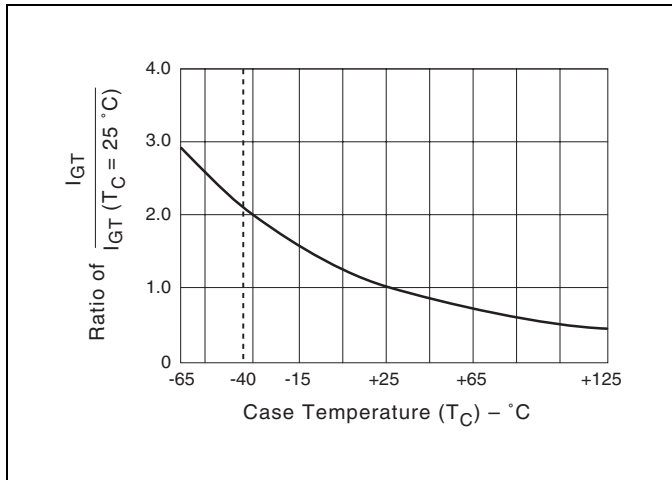

Figure E4.8 Normalized DC Gate Trigger Current for all Quadrants versus Case Temperature
- See Figure E4.8 for I_{GT} versus T_C.